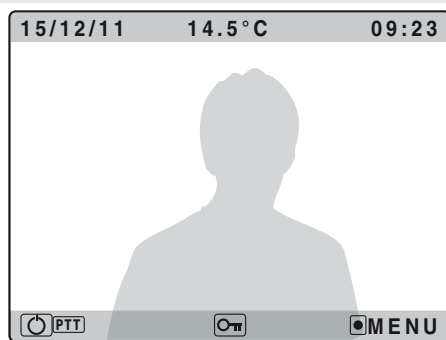

Fig.2a
2. As shown in figure 2a, connect the wires using a flat screw driver then setup the dip-switches as per provided connection diagram or instruction sheet.